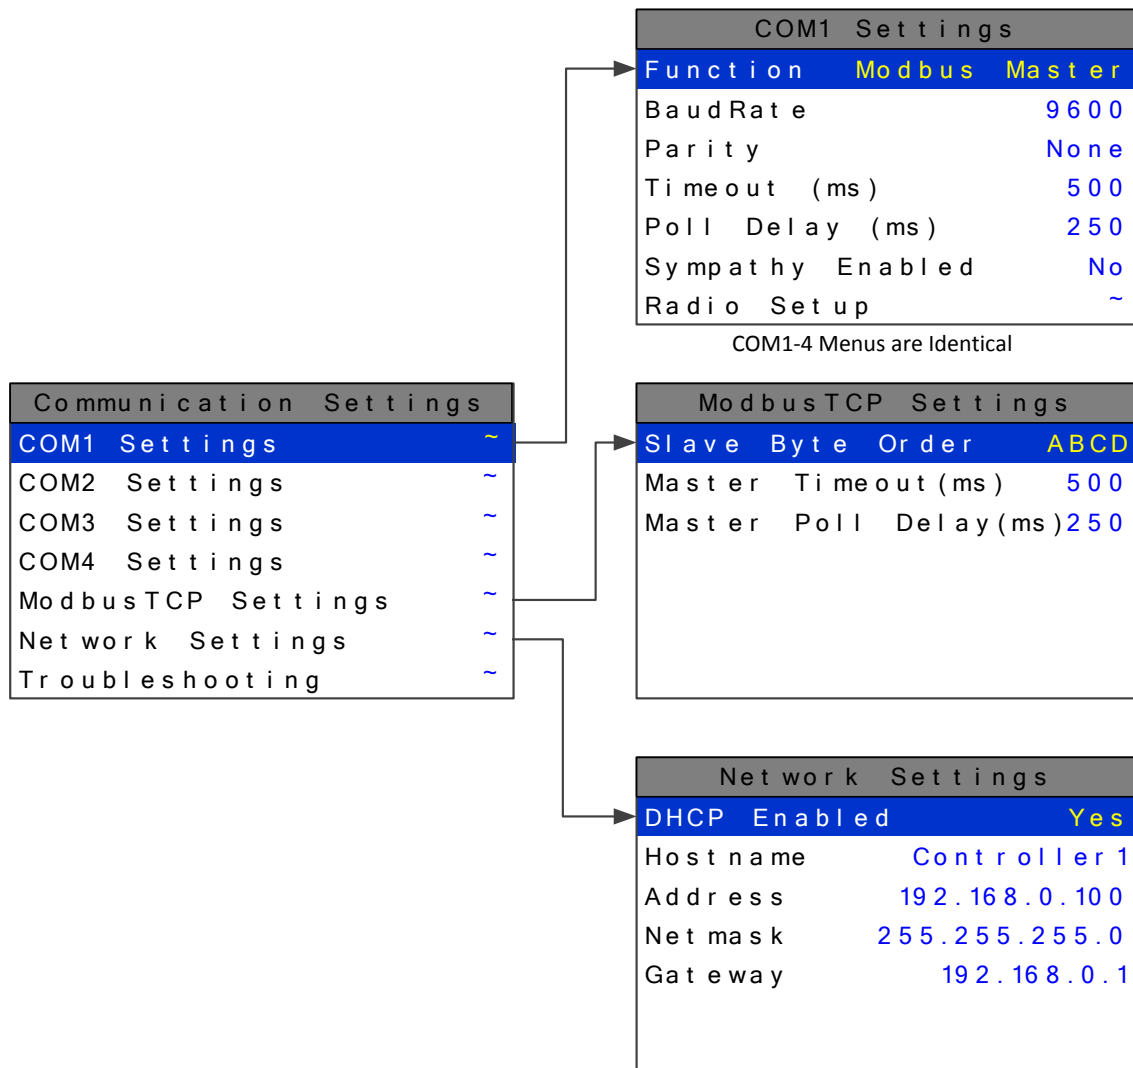

Figure 2-22
**COMMUNICATION SETTINGS** menu is accessed through the **MAIN MENU**. This menu is used to configure the four possible communication ports. Once in the **COMMUNICATION SETTINGS** entry menu, show on left in Figure 2-22; use